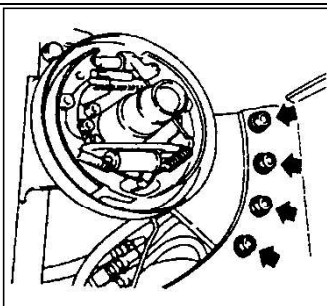

Fig. 1-4
- (6) Disconnect brake cable at hand brake lever.
- (7) Remove front wheels.
- (8) Remove axle shaft.
- (9) Support driving axle with wire ropes and lifting device.
- (10) Remove bolts securing axle mounting bracket to frame. (see Figure 1-4).